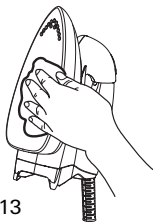

Fig.13
2. Clean the iron with a damp cloth. (See Fig.13)